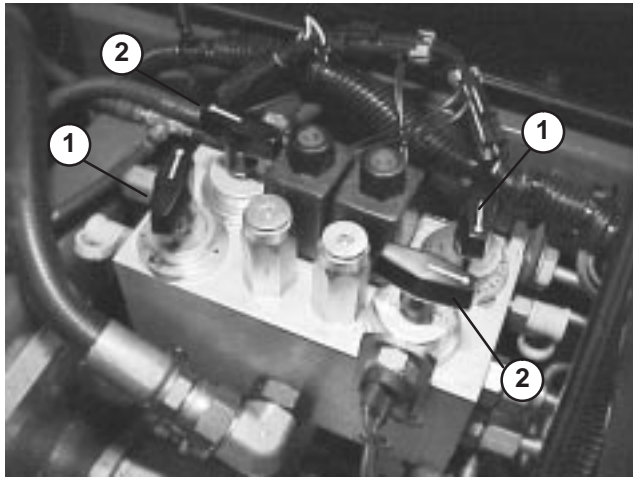

Figure 72
3. Locate the reel speed selector knobs and backlap knobs (Fig. 72). Rotate the desired backlap knob(s) to the backlap position and the desired reel speed selector knob(s) to position 1.